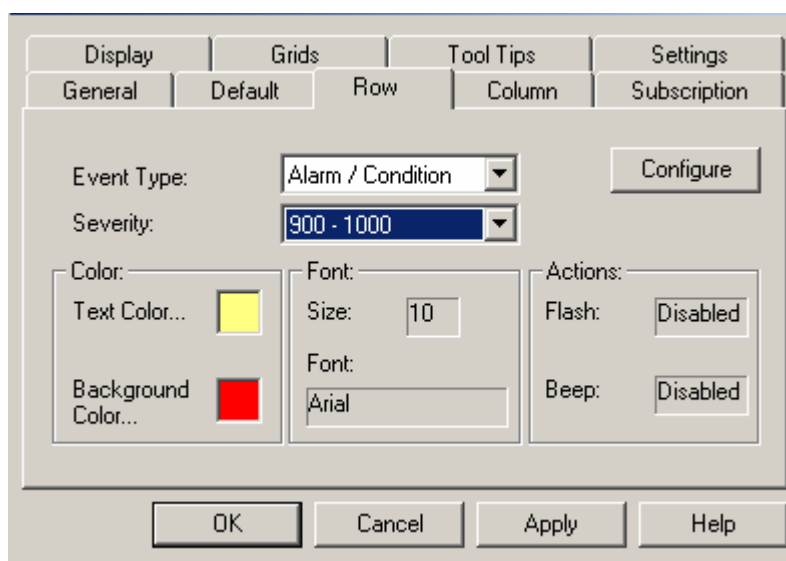

Figure 7.9. Alarm Row Configuration
1. Click on the **Row** tab, as shown in **Figure 7.9**.